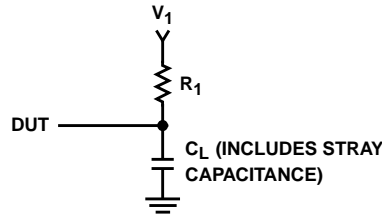

FIGURE 1. LOAD TEST CIRCUIT
- See Load Test Circuit, Figure 1, R₁ = 10kΩ, C_L = 50pF (Includes Stray and Jig Capacitance).